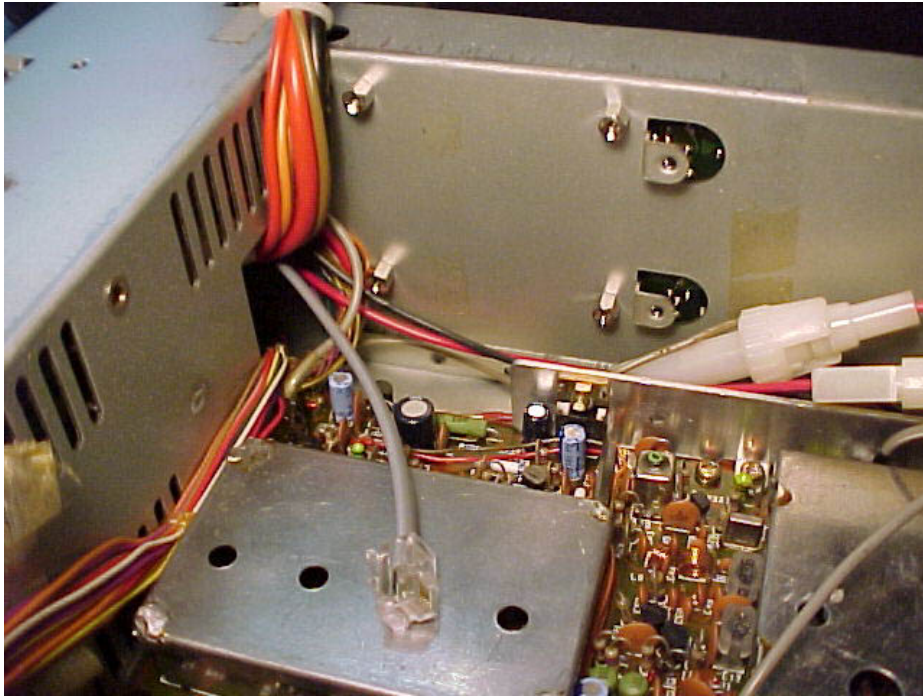

Figure 4.
6. Install the 4 supplied standoffs as indicated in figure 4. Be careful not to over tighten the hardware!